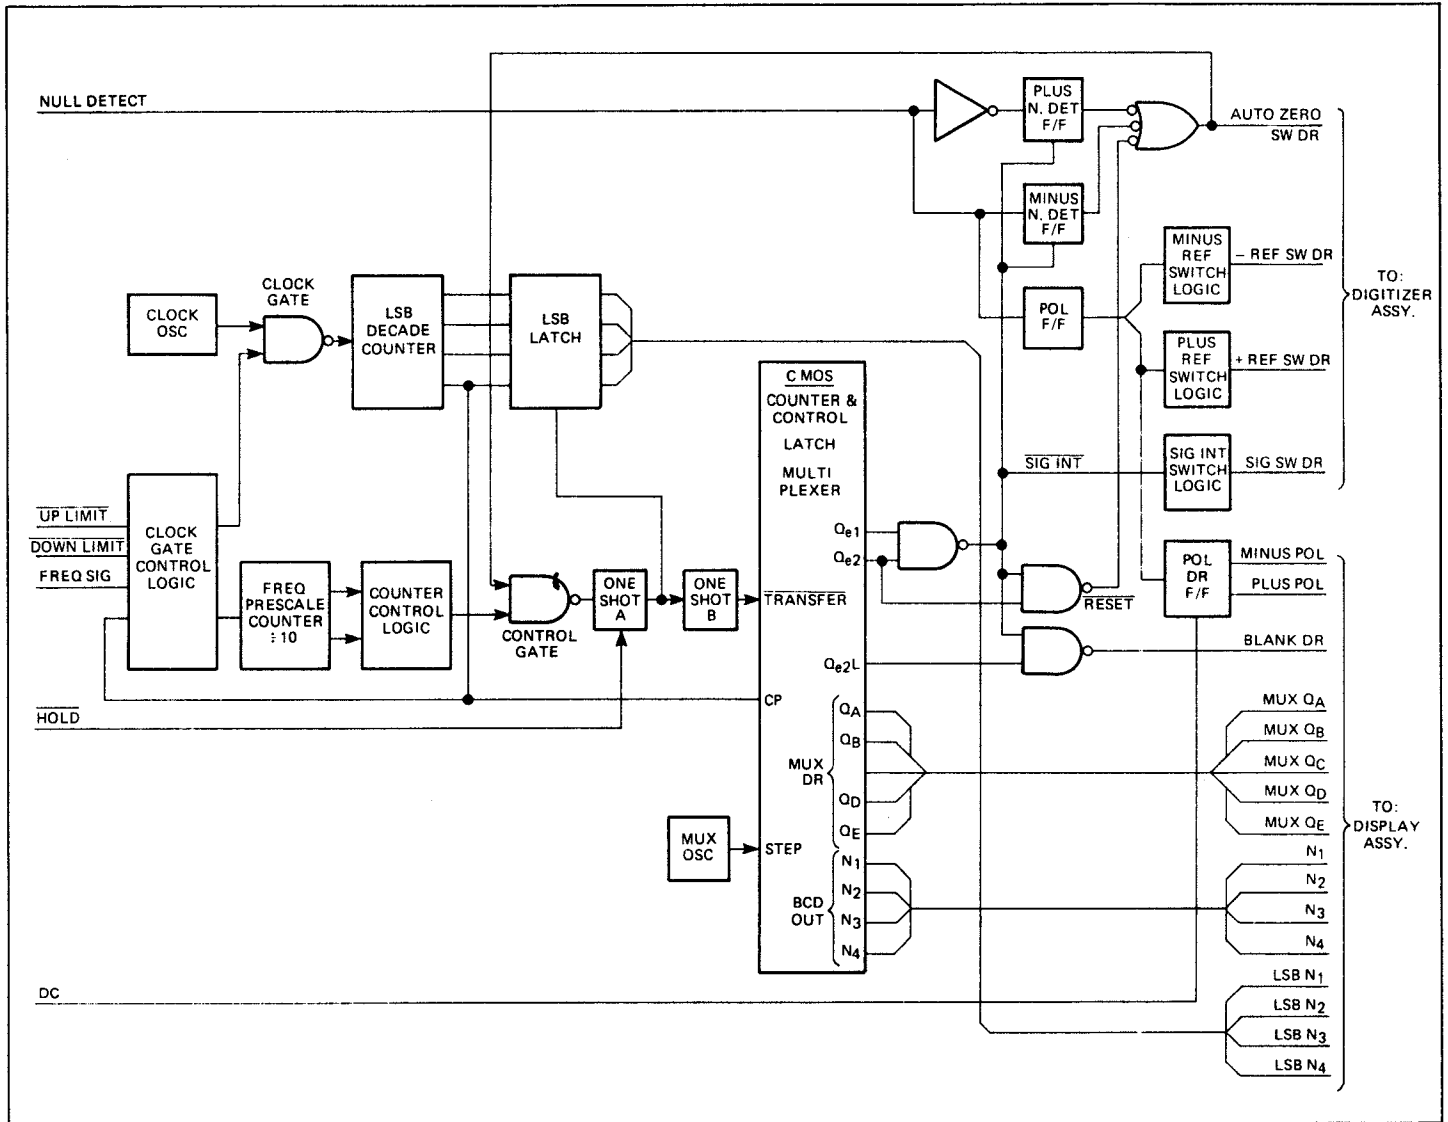

Figure 4.14 - Timing and Control
4.3.13.1 Operation of the 5100AF is controlled by the Timing and Control circuits (figure 4.14, block diagram). These circuits provide synchronization and control signals which control the sequence of operation referred to as the measurement cycle. Figure 4.2 illustrates the measurement cycle timing. Note that the timing waveforms in the upper portion of the figure illustrate timing and polarities for a positive measurement signal while the lower portion illustrates the negative input example.
The differences between the upper and lower portions of the figure are the polarity of the input signal, the integrator slope and polarity, the timing of signal switch, reference switch and reset switch. The following description of the operation of the timing and control circuits refers to the simplified block diagram (figure 4.14) and the timing chart (figure 4.2).